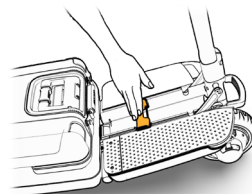

Figure 11
9. Place handle in its designated place (see Figure 11).